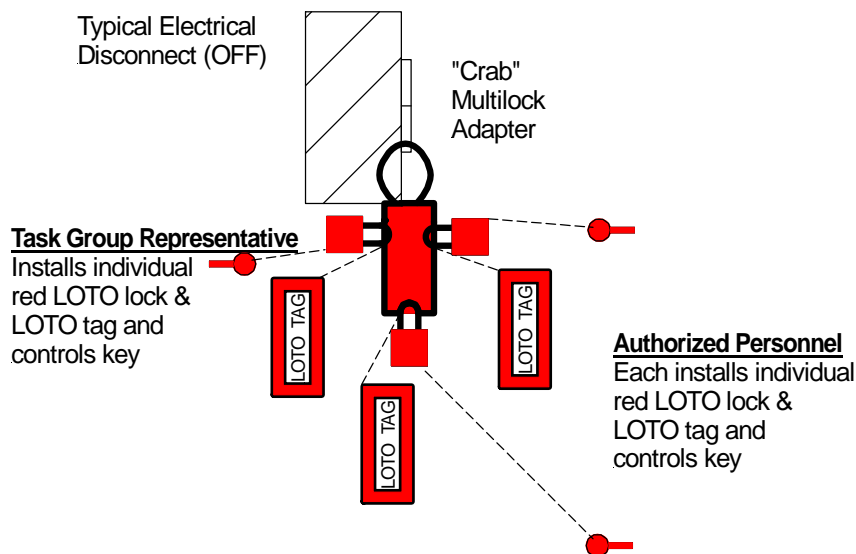

Figure 8.2-1. Group lockout tagout concept for single energy control point.
- c. Single energy source, multiple maintenance, servicing personnel, and *single point with use of multi-lock adapter (figure 8.2-1)*: